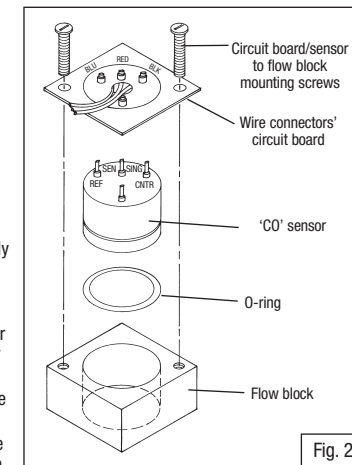

Fig. 2
3. If wires are connected to a rectangular circuit board that is attached to the flow block by screws, see Installation Instructions B, (Fig. 2).
4. Remove carbon monoxide (CO) sensor from its cavity in the flow block on top of bottom plate. Pull tab, pin or round circuit board wire connectors off tab/pins of sensor, noting the color-coding. If rectangular screw-mounted circuit board is supplied, unscrew the 2 mounting screws and remove sensor from flow block cavity. Pull circuit board connectors off pins of sensor.